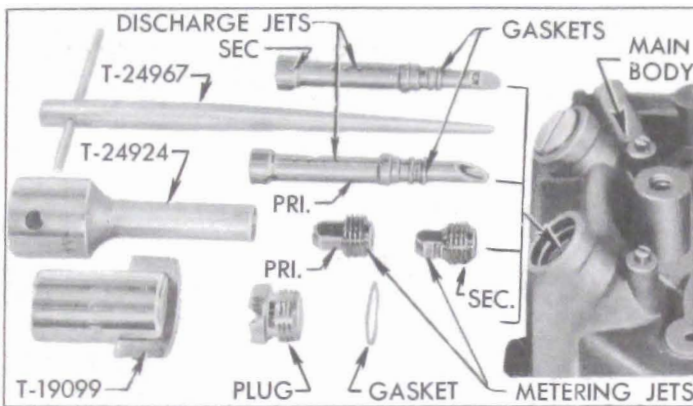

Figure 3-90—Main Metering and Discharge Jets and Tools
15. Remove main discharge jet plugs using Screw Driver T-19099, remove copper gaskets, then remove main metering jets using Jet Socket T-24924. See figure 3-90.
16. Remove main discharge jets by screwing Jet Remover T-24967 (R.H. thread) into base of jet, then pulling jets from main body. See figure 3-90. The threads formed in the main discharge jet by the tool will not affect the metering characteristics of the jet. NOTE: *Make sure that main discharge jet lead gaskets are removed from main body.*
9. Place *new* lead gaskets on upper ends of all main discharge jets and use Jet Remover T-24967 to install jets in main body. See figure 3-90. *Upper flat surface of secondary jets only are notched.* Flat surface of all jets must be parallel with direction of air flow when installed.
10. Install main metering jets, using Jet Socket T-24924. The *secondary* jets are marked .057" and have a groove on the shank. The *primary* jets are marked "048," and the shank is not grooved. See figure 3-90.